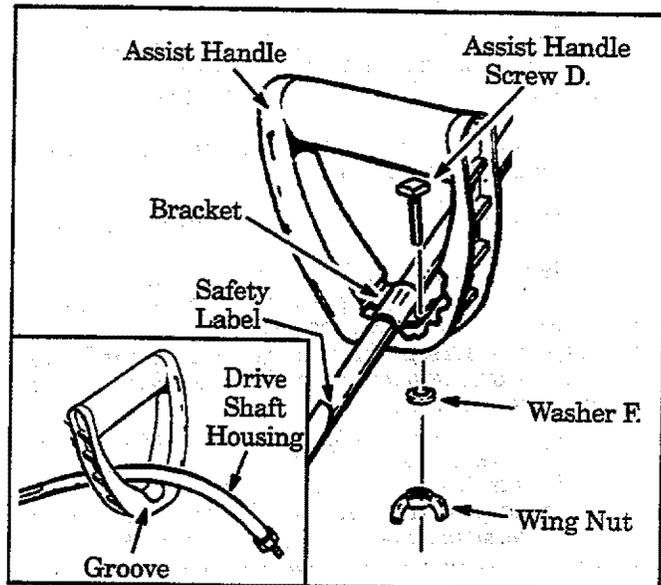

Figure 3
- Insert the end of the drive shaft housing through the assist handle. Figure 3 (inset).
- Align the assist handle between the safety label and the throttle trigger housing. Seat drive shaft housing in the groove in the assist handle. Figure 3.
- Insert the tab on the assist handle bracket into the slot on the assist handle. Figure 3. Then, lay the assist handle bracket into place over the drive shaft housing.
- Insert the screw down through the hole in the assist handle bracket and then through the assist handle. Figure 3.
CAUTION: When adjusting the assist handle for comfort, be sure that the assist handle remains between engine and safety label on drive shaft housing. Figure 3.
- Adjust assist handle up or down the shaft housing for comfort. Figure 3.